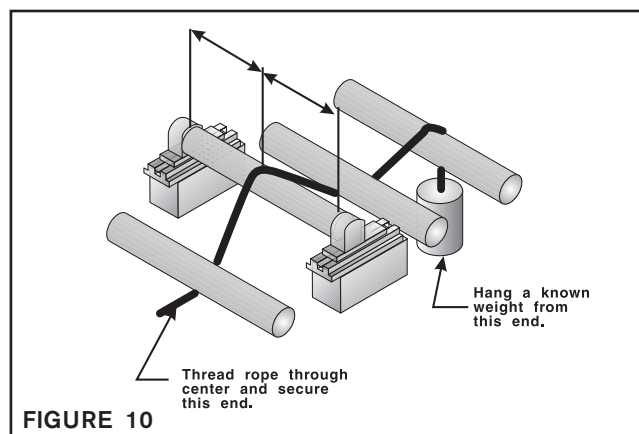

FIGURE 10
1. Thread a rope or narrow web over the Sensor Roll in the normal path. Be sure the rope or web is at the center of the Sensor roll; then, hang a known weight (within the range of the system) on one end of the rope or web (Example: Maximum Tension = 100 Lbs. hang a 50 Lb. weight) (See Figure 10).